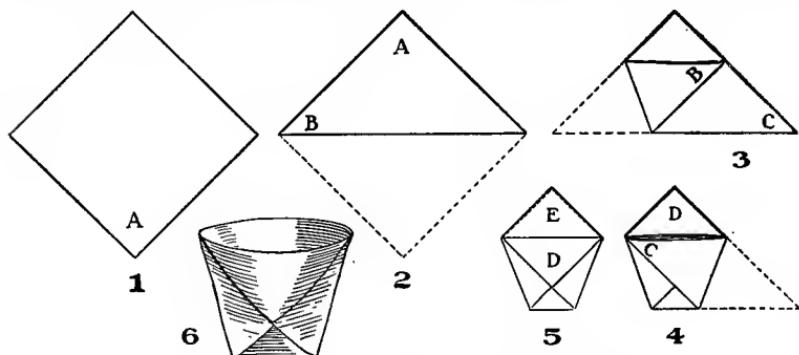

FIG. 522.—How to Fold a Paper Drinking-Cup.
**A Folded Paper Cup** is extremely simple to make, when you know how. The diagrams for folding one are shown in Fig. 522. Tear a piece of paper so it will be 8 or 9 inches square (*Step 1*), fold corner *A* over to the opposite corner (*Step 2*), fold corner *B* over to the position shown in *Step 3*, fold corner *C* over to the position shown in *Step 4*, turn down the upper corner *D* as in *Step 5*, and turn down corner *E* on the opposite side (*Step 6*), spread the upper edges apart, and the cup is completed.